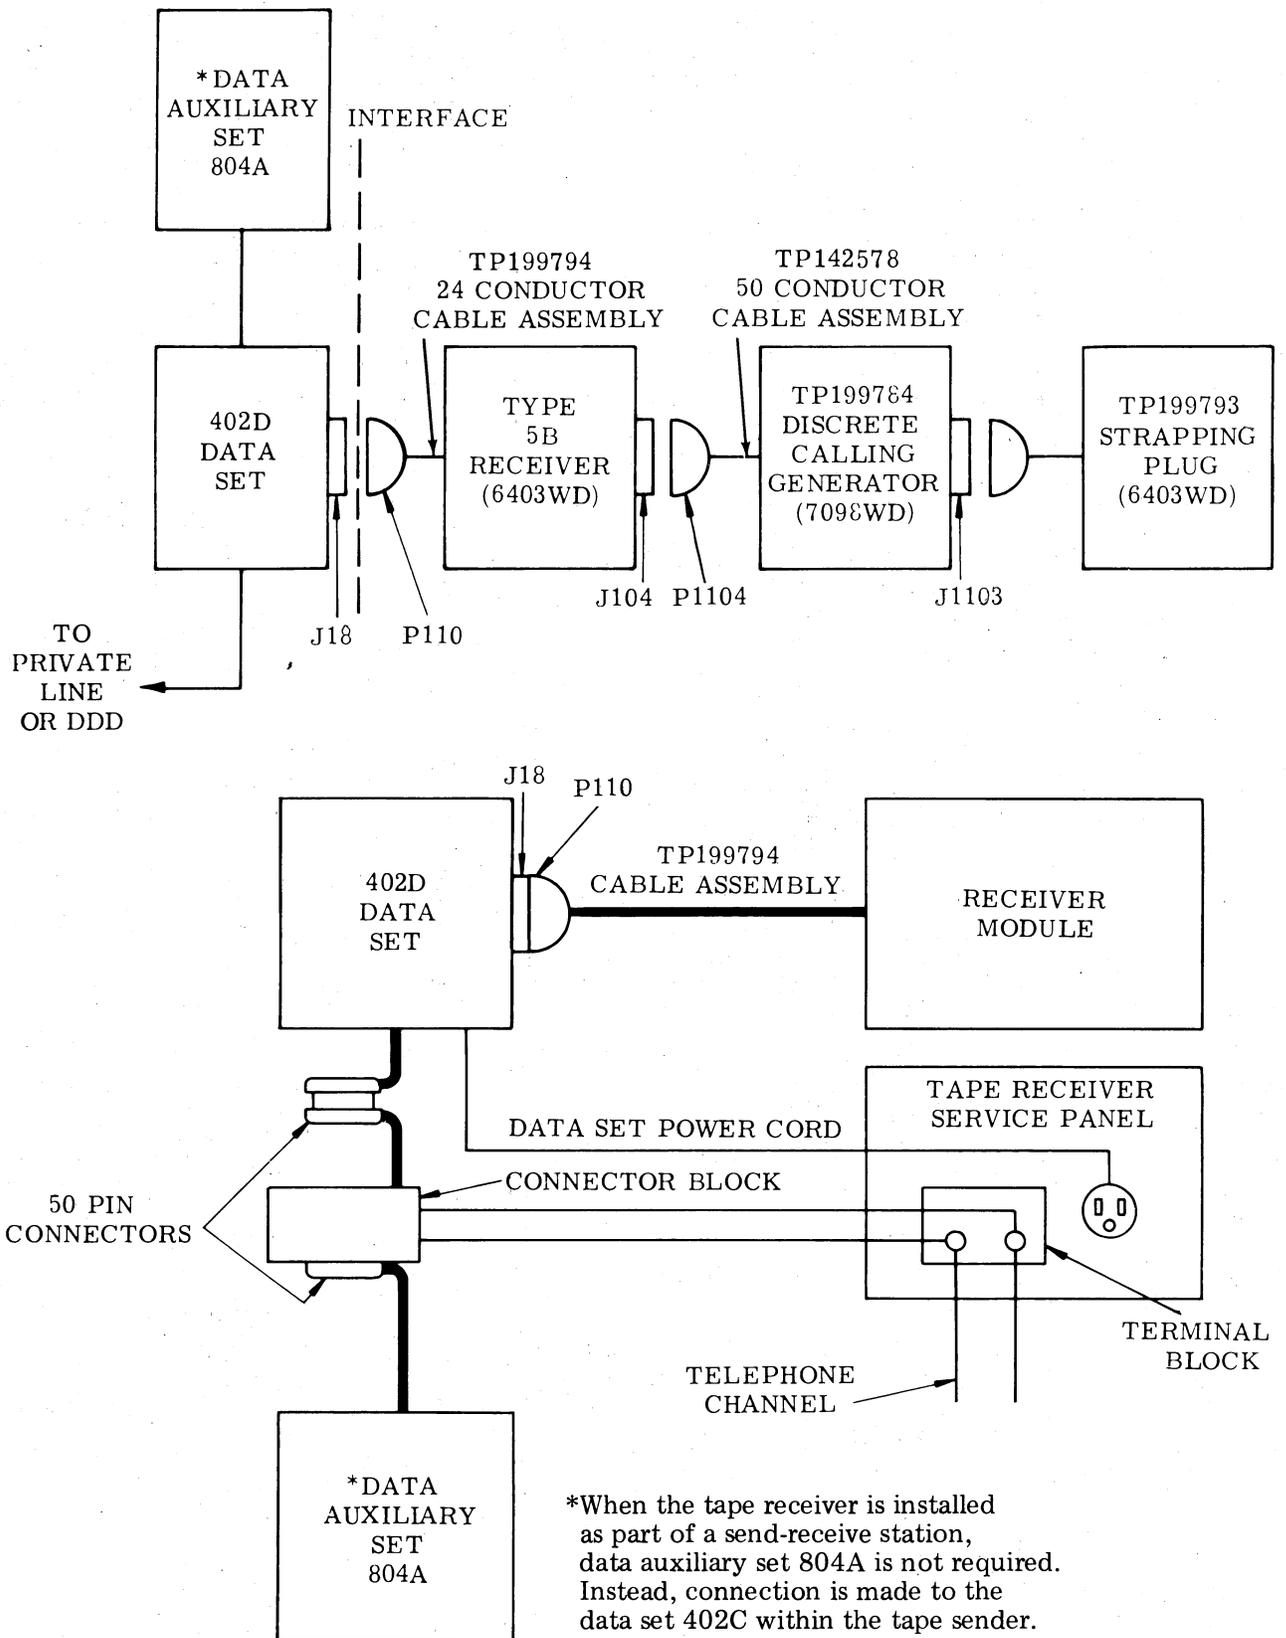
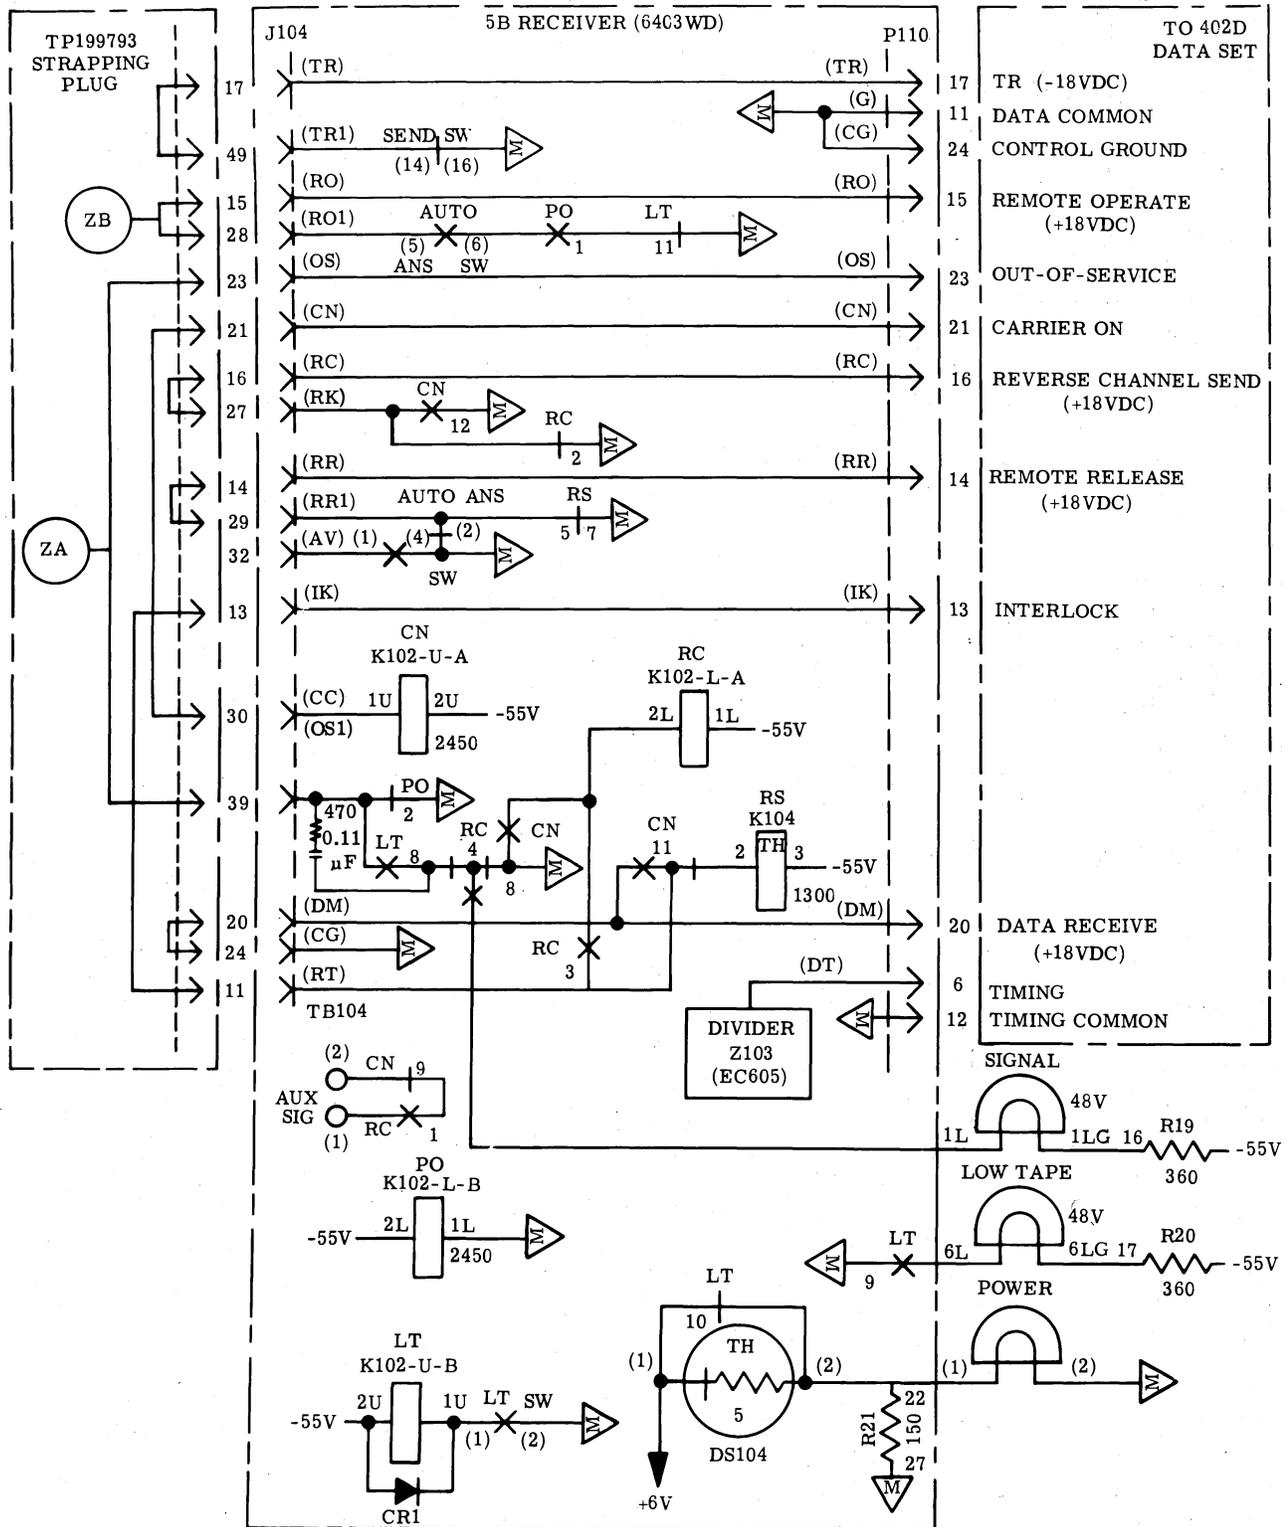
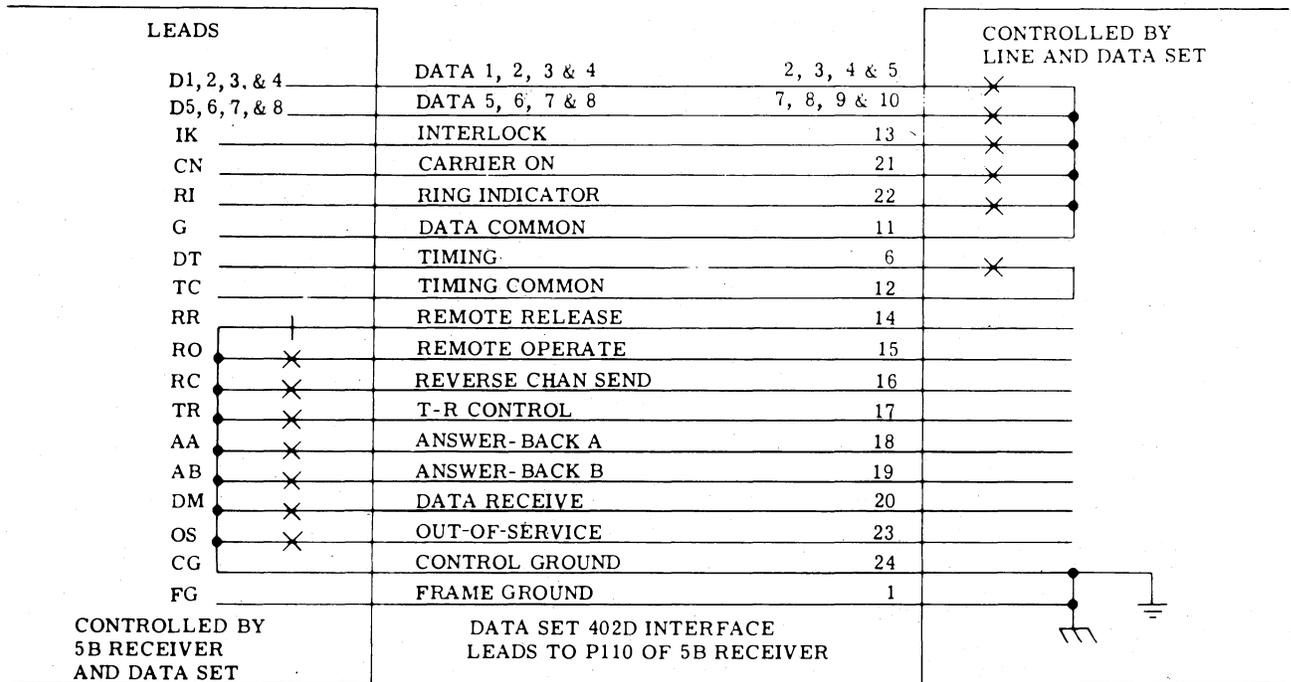

Figure 1 - Interconnecting Diagram for Receive-Only Terminal with Discrete Calling Feature
Figure 2 - Tape Receiver 5B, Receive-Only Terminal Control Circuits
Figure 3 - Typical Interface — Contact Control Arrangements at Data Set
(a) Unusual troubles that are not found in Table C or in these circuit descriptions may be cleared by reference to Section 582-102-120, where circuit details are discussed. An interconnecting block diagram (Figure 1), a control circuit diagram (Figure 2), and an interface diagram (Figure 3) are included in this section for the convenience of the serviceman. Also included are trouble sources, and general information that may otherwise be difficult to obtain.
C. Control Circuits (Figure 2)
3.16 For proper operation, the manual controls must be positioned according to the section covering operation of the terminal equipment. This includes any extra feature units used. The manual controls may also be operated as an aid in checking their related circuits and to isolate possible troubles in the receiver. Refer to Figure 2 and Tables B and C in this section, and to wiring diagrams 6403WD and 6404WD shipped with the receiver.